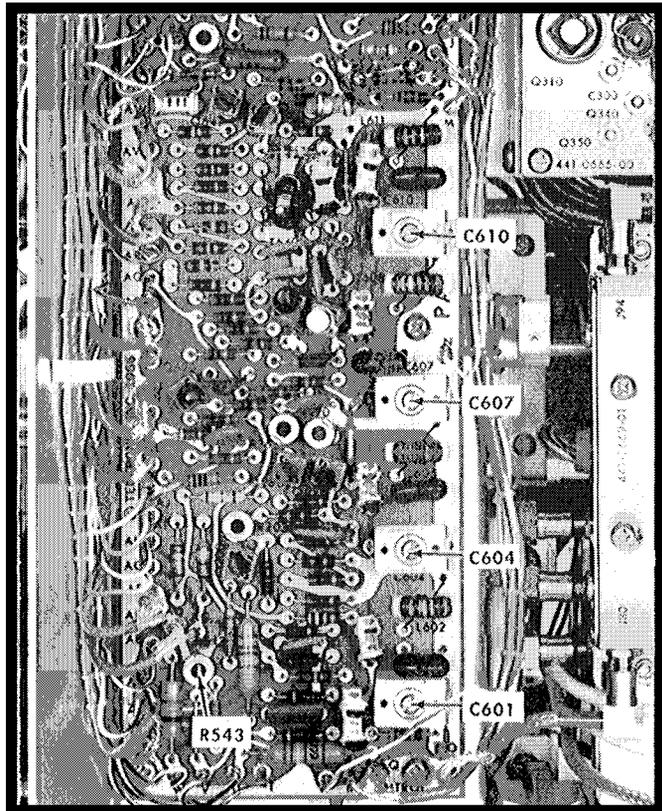

Fig. 6-28. Location of resolution filter adjustments and 100 kHz Resolution Cal R543.
h. Adjust 100 kHz Resol Cal R543 (Fig. 6-28) so the display begins to show evidence of over coupling (slight dip in the center). Bandpass response on the analyzer display should decrease to approximately 60 kHz at the  $-6$  dB point when the RESOLUTION selector is turned counterclockwise one step from the fully clockwise position.
l. If the bandpass is less than 100 kHz in step k, adjust the 100 kHz Resolution Cal R543 (Fig. 6-28) to obtain a bandpass between 100 kHz and 120 kHz at the  $-6$  dB point.